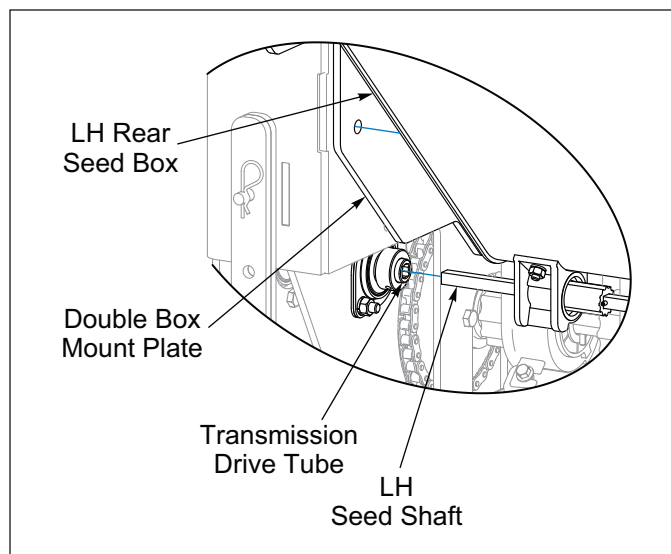

Figure 2-48: Rear Box Seed Shaft
16. Support LH Rear Seed Box. Align and insert Rear Seed Box 3/8" Square Seed Shaft into Transmission Drive Tube. Seed Shaft should be free to rotate. **See Figure 2-48.**